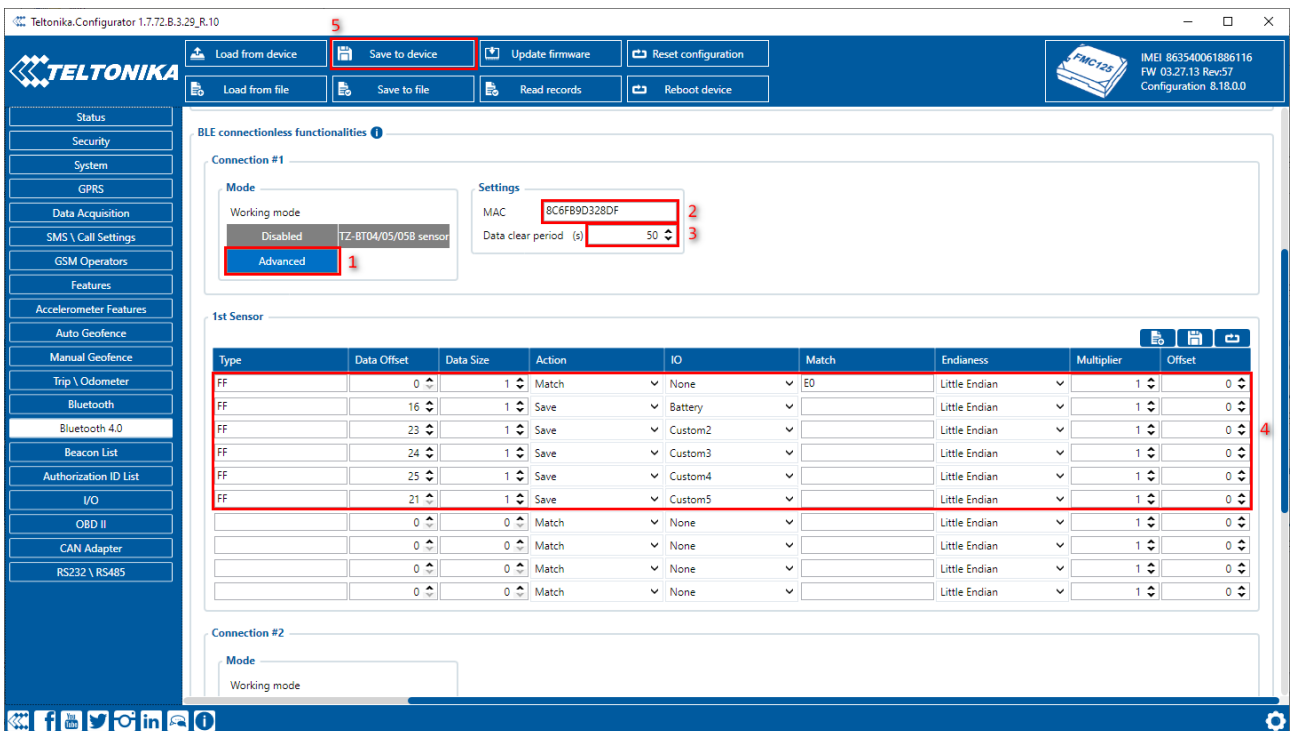

Figure K.4
K.1.4 On the "Bluetooth 4.0" tab (Fig. K.4):